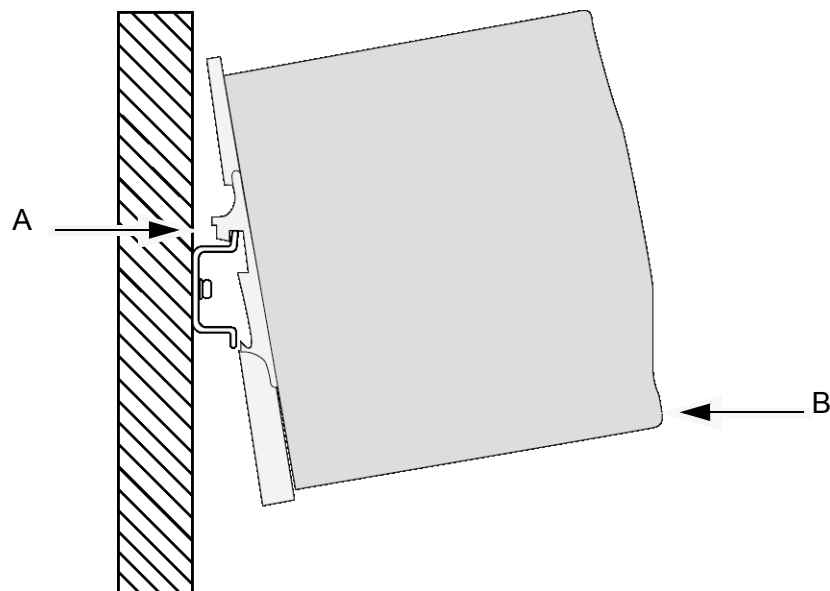

Figure 11. Installing the Power Supply on a DIN Rail
To install the power supply on a DIN rail, place the upper notch on the bracket over the top rail edge (A) and push the lower edge of the power supply until the bracket snaps onto the rail (B). Refer to Figure 11.